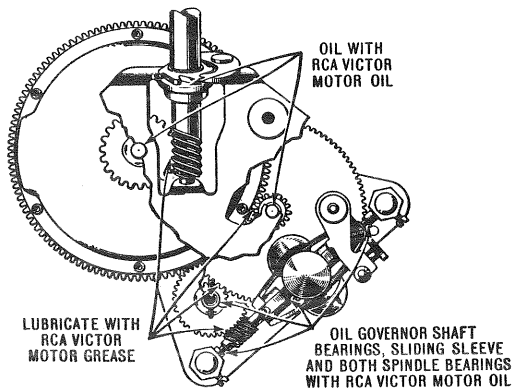

Figure 1—Lubrication Diagram of Model 2-25
**Motor.** Figure 1 shows a view of the motor with the top plate removed. Before lubricating the parts shown in this illustration, a thorough cleaning with carbon tetrachloride (Carbena) or gasoline is necessary. If necessary disassemble the entire motor for such cleaning.